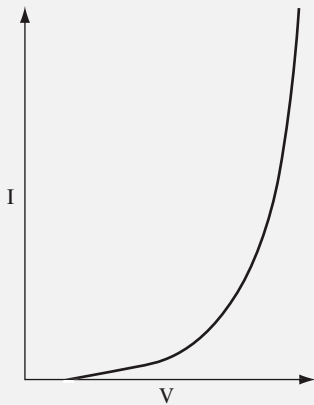
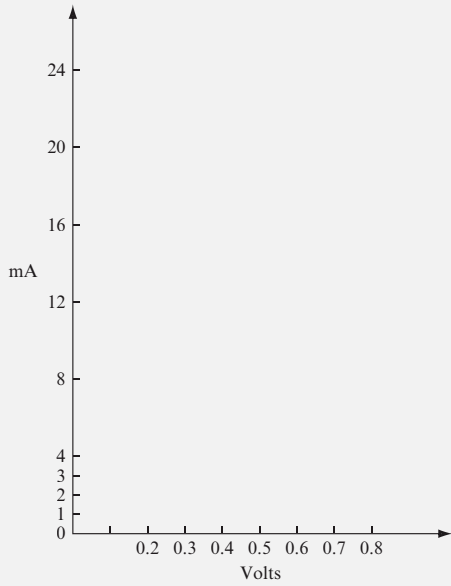

FIGURE 2.10
FIGURE 2.12
The objective of this project is to plot the V-I curve (also called a *characteristic curve*) of a diode, which shows how current flow through the diode varies with the applied voltage. As shown in Figure 2.10, the I-V curve for a diode demonstrates that if low voltage is applied to a diode, current does not flow. However, when the applied voltage exceeds a certain value, the current flow increases quickly.
7. Graph the points recorded in the table using the blank graph shown in Figure 2.12. Your curve should look like the one shown in Figure 2.10.